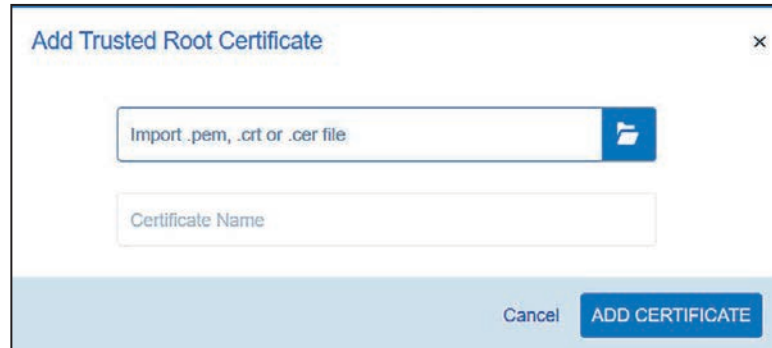

Figure 32. The Add Trusted Root Certificate dialog box.
STEP 1. Click on the **Add Trusted Root Certificate** button. A dialog box will open. See Figure 32.